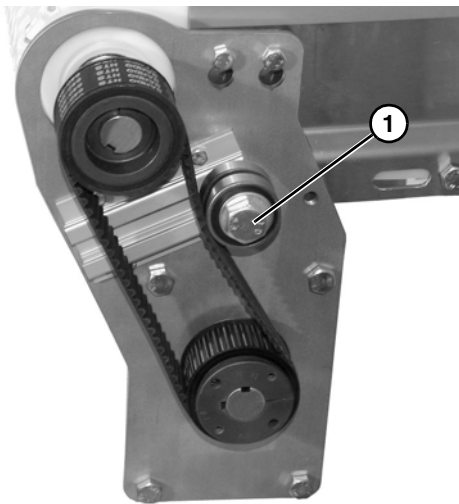

Figure 28
2. Loosen tensioner screw (Figure 28, item 1).